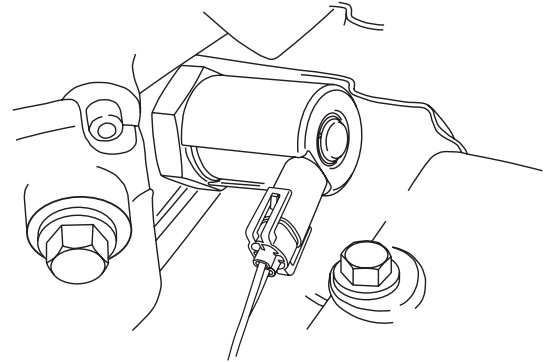

Figure 1
6. Disconnect the IPR (injection pressure regulator) harness. Connect OTC No. 6764 IPR Controller directly to the IPR. Find the best access point for the connection, depending on the model year of the vehicle. Rotate the IPR valve body if necessary. See Figure 1.